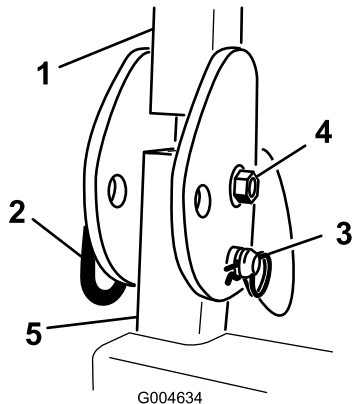

Figure 14
16. Install the bolt, nut, hair pin cotter and pin securing each ROPS assembly to the ROPS posts (Figure 14).